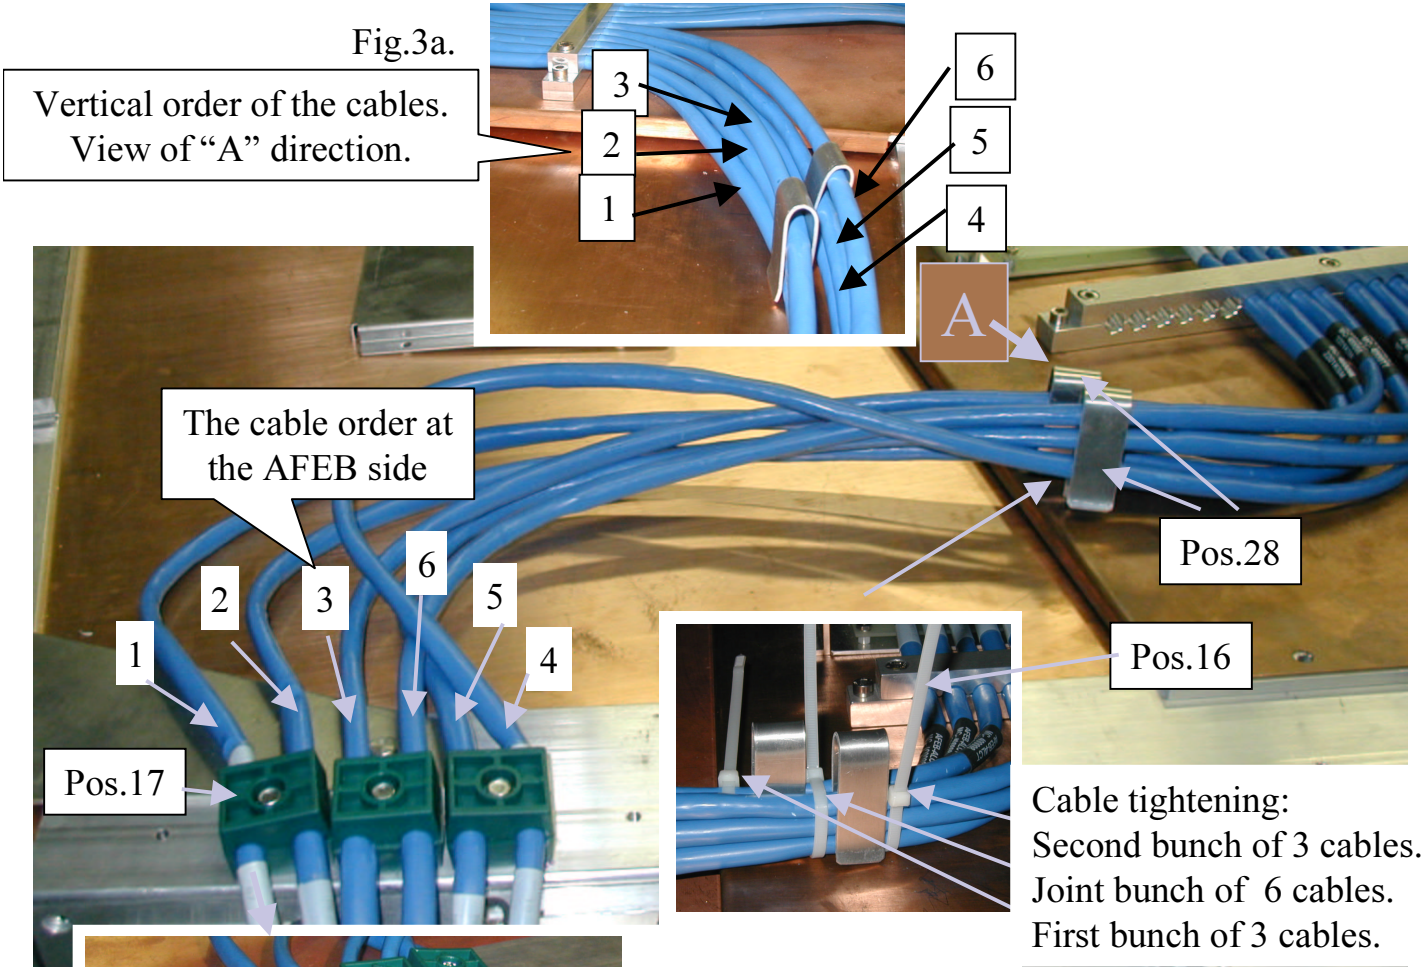

Fig.3. Arrangement of the first bunch of 6 cables.
Step 2. Set the cables between the cable strain relief RBPR-110 (pos.17) in order 1, 2, 3, 6, 5, 4 as shown in the picture (Fig.3). Use screw M5 x25 and 8 mm socket; apply a torque of 20 lb/in for tightening the strain relief. Use alcohol as a lubricant.
Step 5. Arrange the cables on the top of the chamber into two bunches of three cables in the order shown in picture (Fig. 3). Start from the ALCT side. Use cable clamps
Step 6. Tighten the cables with cable ties (pos.16), remove the cable clamps.
- Repeat all these procedures steps 1- 6 with the second bunch of six cables (numbers 7, 8, 9, 10, 11, 12). Start from cable #7. Use Fig. 3, 3a, 3b, 3c, 4 for reference.